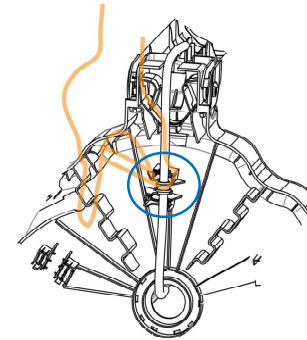

Figure 3B
- G. Re-connect the Arm hose to the Base by tightening the threaded white connectors (refer to Step/Figure 3B)